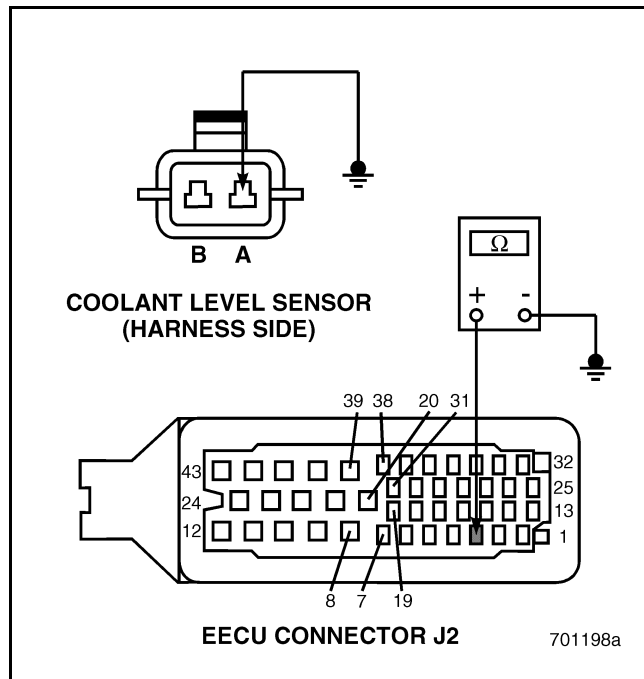

Figure 101
4. Connect a jumper between pin A on the harness side of the Coolant Level Sensor and a known good ground (see Figure 101).